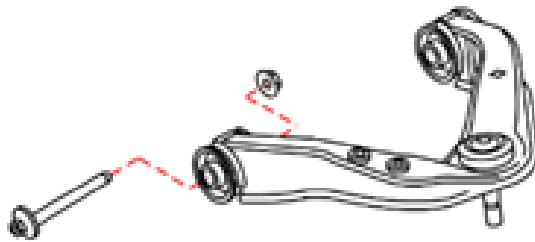

Figure 3
10. Remove the OEM Front Upper Control Arm's (2) two mounting nuts and (2) two bolts, shown below in *Figure 3*.